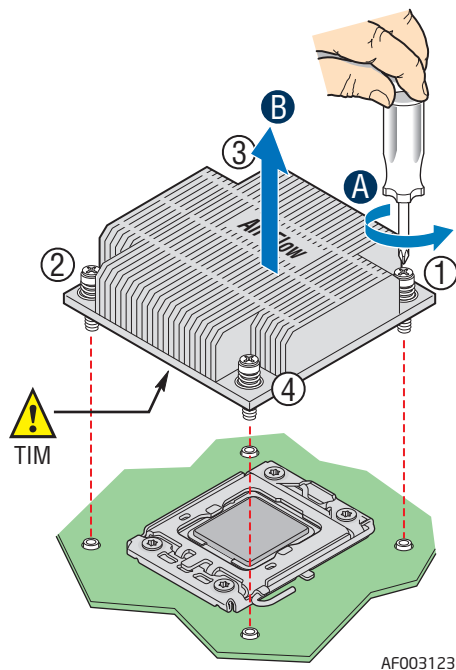

Figure 19. Removing the Heatsink
5. Loosen the four captive screws on the heatsink corners in a diagonal manner according to the numbers shown in Figure 19 as follows:
- a. Starting with the screw at location 1, loosen it by giving it two rotations in the anticlockwise direction (see letter “A” in Figure 19) and stop. (**IMPORTANT:** Do not fully loosen.)
7. Lift the heatsink from the processor (see letter “B” in Figure 19). If it does not pull up easily, twist the heatsink again. Do not force the heatsink from the processor. Doing so could damage the processor.